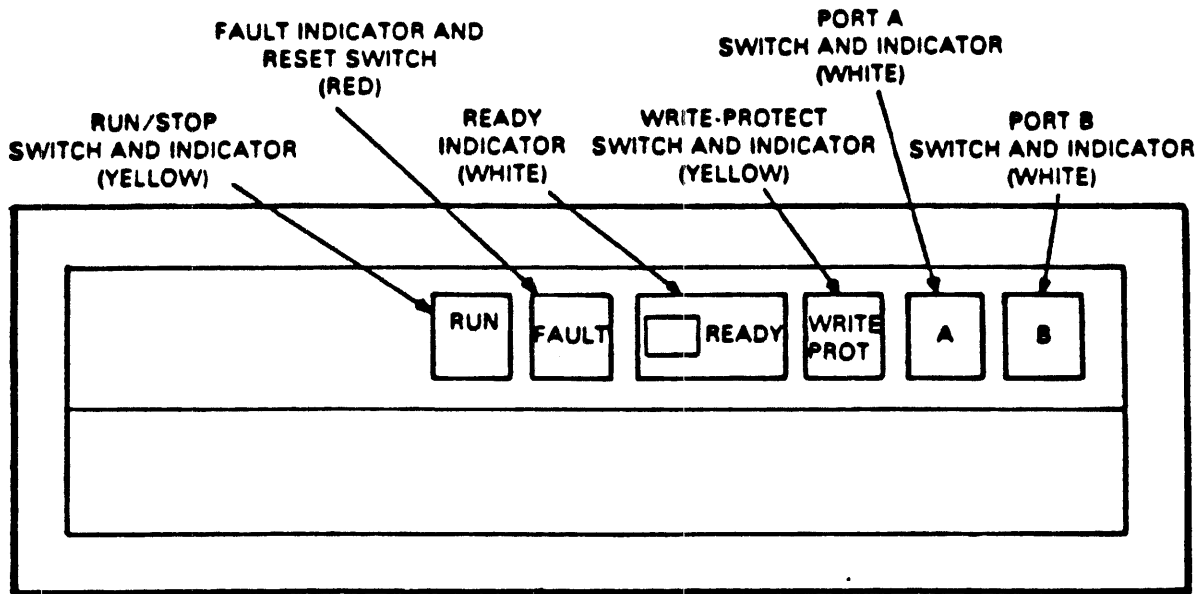

Figure 1 Front-Panel Controls and Indicators
3. Depress the "A and B" port switches on the Operator Control Panel to the "OUT" position. See Figure 1.
17. Spin up the Drive by pressing the RUN/STOP switch. (Figure 1)
18. After the Drive has spun up and a ready light is "ON", press the "A" and/or "B" port switches on the Operator Control Panel to the "IN" position. (Figure 1)